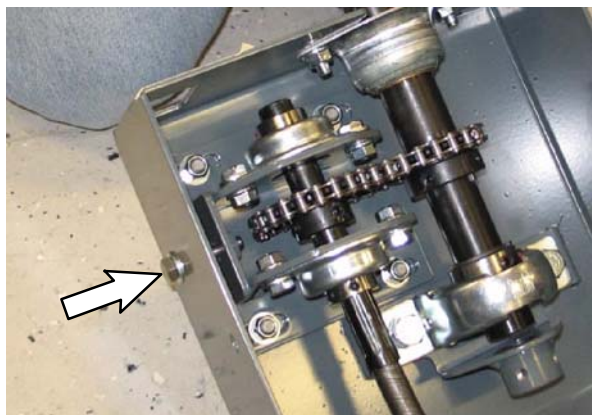

FIG. 25
21. **Newer Design Machines:** Loosen the steering tension hardware. (Fig. 25)